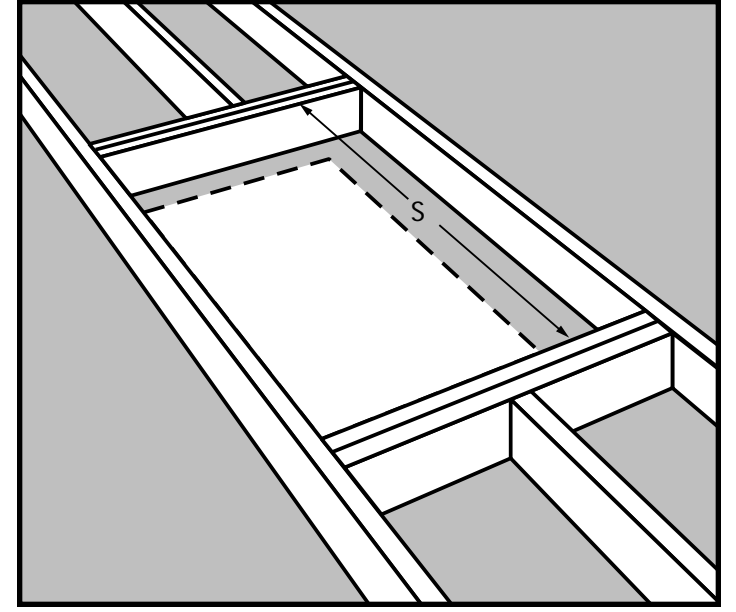

Figure 18
- STEP 1. Measure the stringer length "S" between the headers (Figure 18).
- STEP 3. If the ceiling joist does not provide one side of the frame, then cut a second stringer the same length as the first one. Note that only one stringer is needed in Figure 18 because the ceiling joist provides one side of the frame.